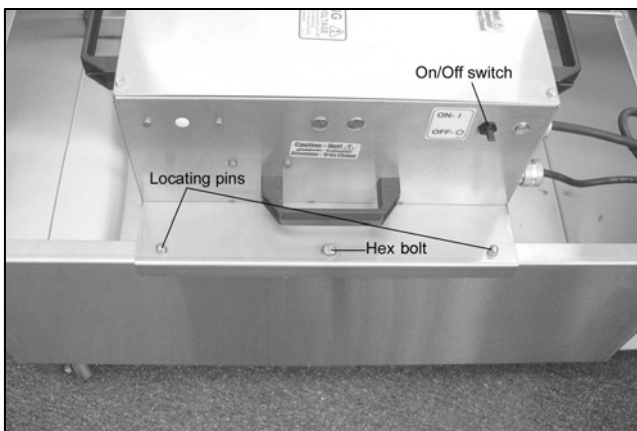

Figure 1-3. Pump motor housing.
- c. Remove the hex bolt (See Figure 1-3).
- d. Lift the pump/motor housing off of the locating pins (See Figure 1-3).